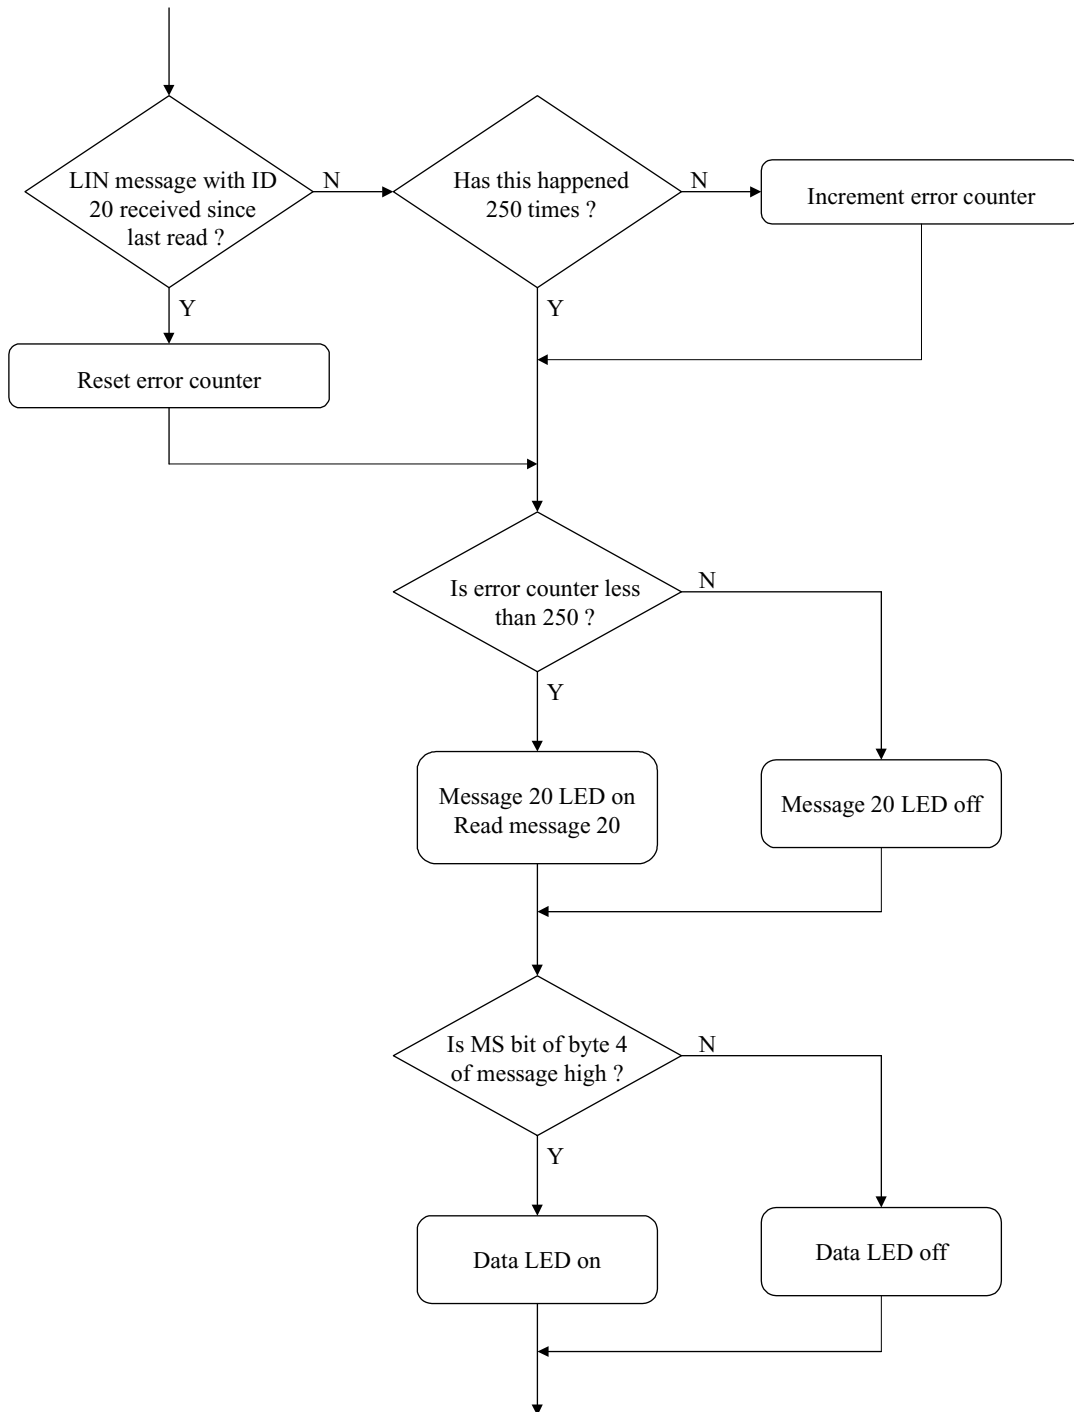
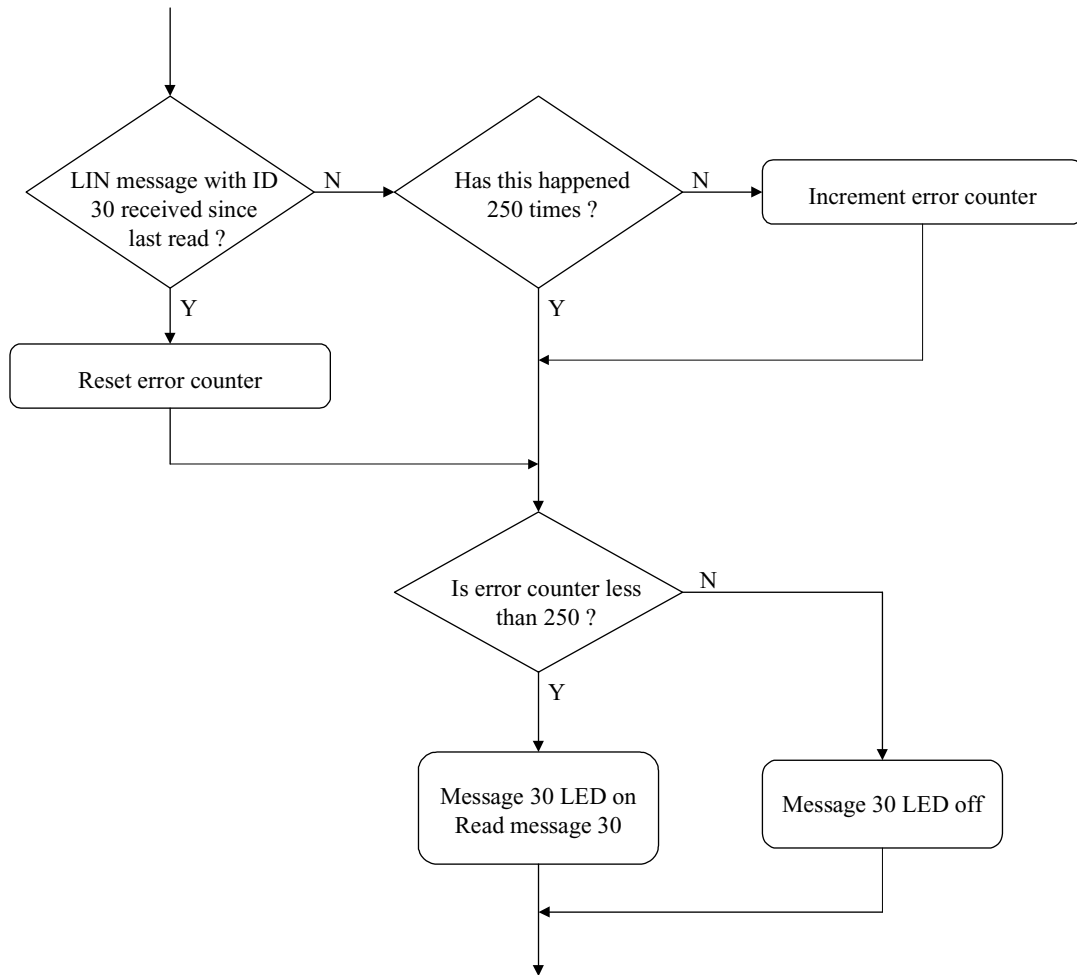

Figure 3. Message 20 Flow Chart
Figure 4. Message 30 Flow Chart
“LIN_MsgStatus(0x20)” is then used to check for the presence of a message with an ID of 20. The flow chart is shown in figure 3. In this case the timeout is determined by the application software and not by the LIN drivers. The counter value chosen (250) means that the LED will go out if there is no message with this ID for a period of about a second. An ID of 20 was used for the keypad in AN2205 (Car door keypad using LIN, reference [6]). If this message is present then the D7 LED is illuminated. If present, the message is read and D8 indicates the state of the most significant bit in the 4th byte. This is the bit used for the child-lock switch in the keypad application. D6 is similarly used to indicate the presence of a second message with an ID of 30 (figure 4). Clearly this is an arbitrary choice of message IDs and only a single bit of data can be displayed but it does indicate the full functionality of the LIN bus. For example, if the wrong baud rate is used, the bus activity LED will still come on but LEDs D6, D7 and D8 will not.